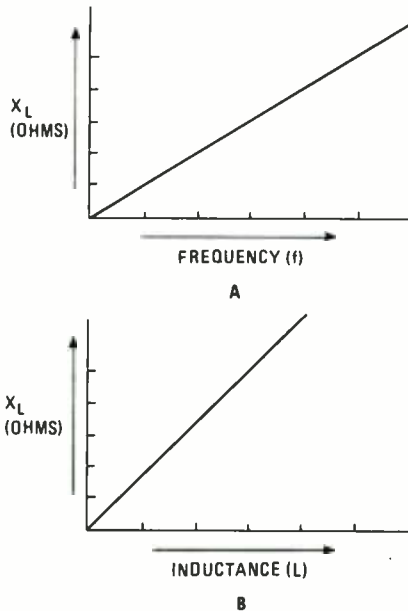

Fig. 7—The variation of X_L for frequency using a fixed value of L is shown in A. In B the variation of X_L with L for a constant frequency is illustrated.
23. (inductance, frequency) The reactance is directly proportional to the coil inductance and the operating frequency. Figure 7 shows that relationship. Decreasing the inductance or the frequency causes the reactance to _____.